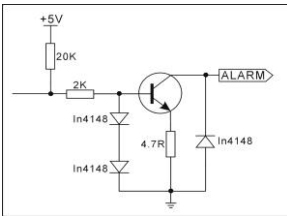

Figure 1
- 1. Alarm output interface (See Figure 1)